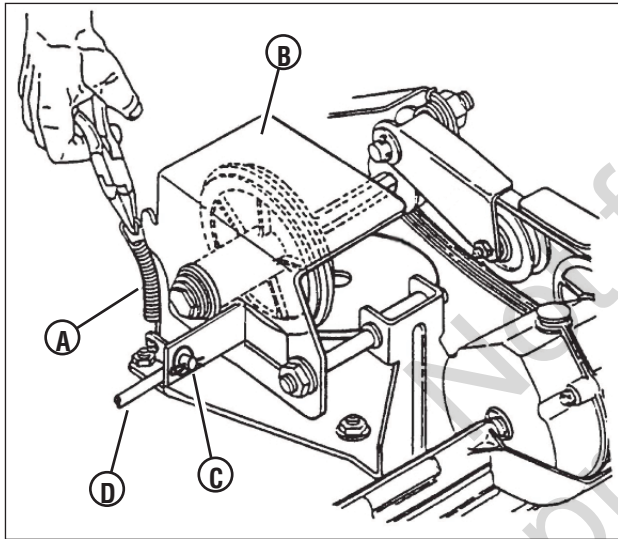

Figure 25: Adjusting the driven disc
2. Remove the driven disc spring (A, Figure 25) from the driven disc assembly (B). Also remove the pin and washer (C) from the transfer rod (D), and remove the end of the transfer rod from the hole in the driven disc assembly.
1. Remove the pin and washer (C, Figure 25) from the transfer rod (D), and remove the end of the transfer rod from the hole in the driven disc assembly.